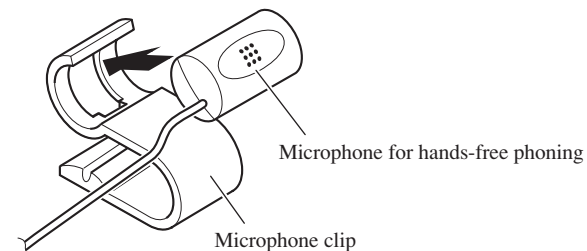

Fig. 12
1. Install the microphone on the microphone clip. (Fig. 12)